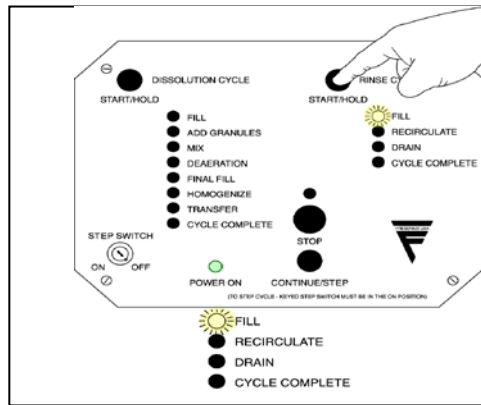

Figure 19
2. Turn the power switch ON and ensure that the water supply valve is OPEN then press the Rinse START/HOLD button. The Fill Indicator LIGHT will illuminate indicating the RINSE CYCLE has started and the GranuFlo I Dissolution Unit is in the first FILL Operation (Figure 19).